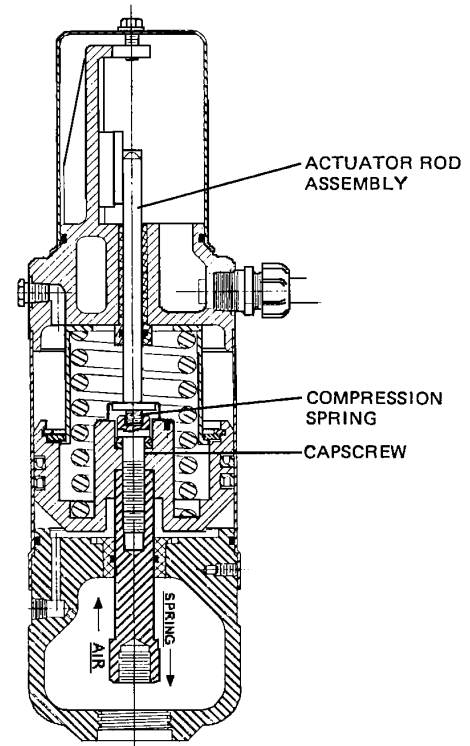

Figure 9. Reversing of Microswitch Actuator
1. Remove the capscrews and pull cover off. See Figure 9.